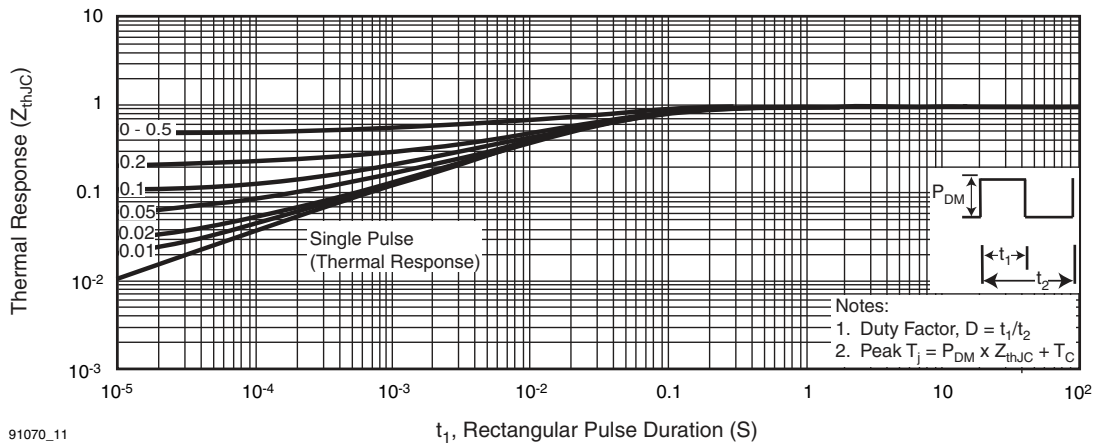

Fig. 11 - Maximum Effective Transient Thermal Impedance, Junction-to-Case
- Repetitive rating; pulse width limited by maximum junction temperature (see fig. 11).
- a. Repetitive rating; pulse width limited by maximum junction temperature (see fig. 11).